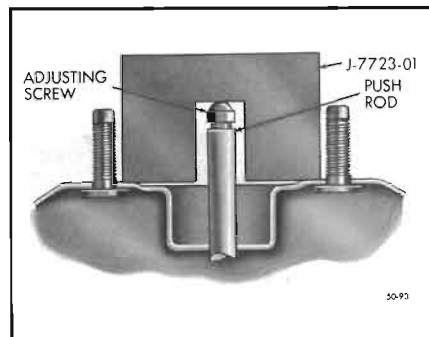

Figure 50-93—Gaging Master Cylinder Push Rod
2. Place Gage J-7723-01 over the piston rod so that it fits between the two studs on the front shell. It should be parallel to the studs and resting on the surface of the shell. The cutout portion of the gage should never be lower than the end of the piston rod and the gap between the cutout in the gage and the end of the piston rod should never be more than .010 inch. See Figure 50-93.